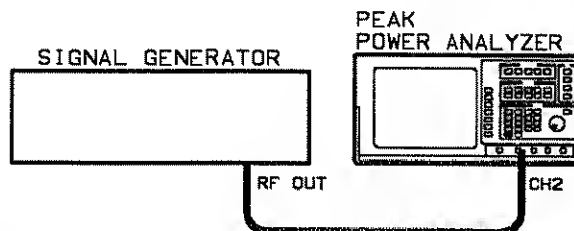

Figure 4-11. Checking Delta-t Accuracy Equipment Setup
1. Connect the equipment as shown in Figure 4-11.